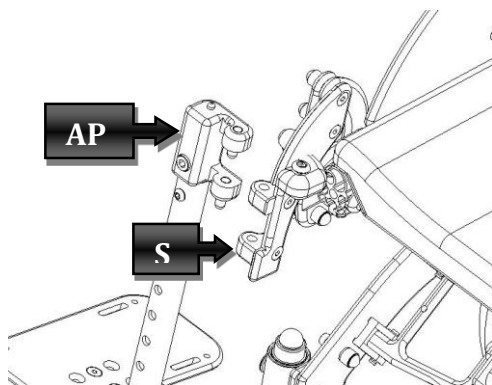
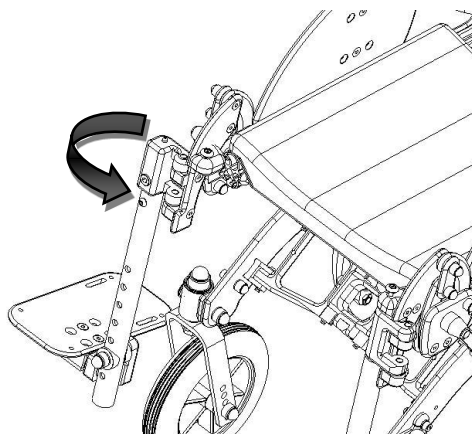

Figure 3
Figure 4
If you have ortho extensible footrest the assembly is different. Ensure the engagement of the footrest (AP) in the appropriate housing (S) as shown in Figure 3 and then rotate towards up to the next step of the pin as in Figure 4.